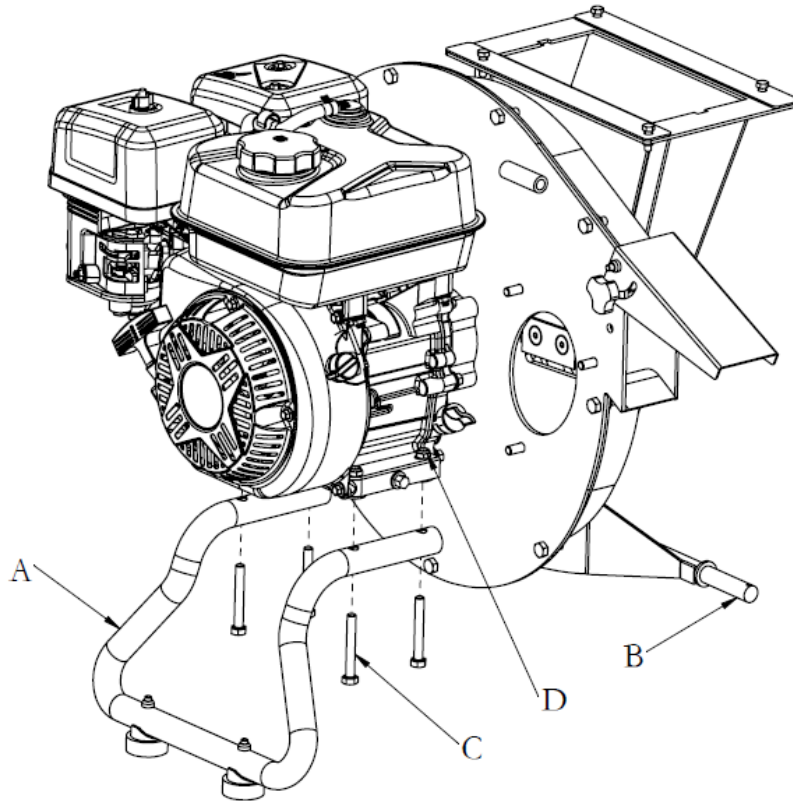

Figure 1
**Install Stand (See Figure 1)**
1. Position the stand (A) underneath the engine base.
2. Using the four M8x60 bolts (C) and four nuts (D), tighten the stand with the engine base plate.